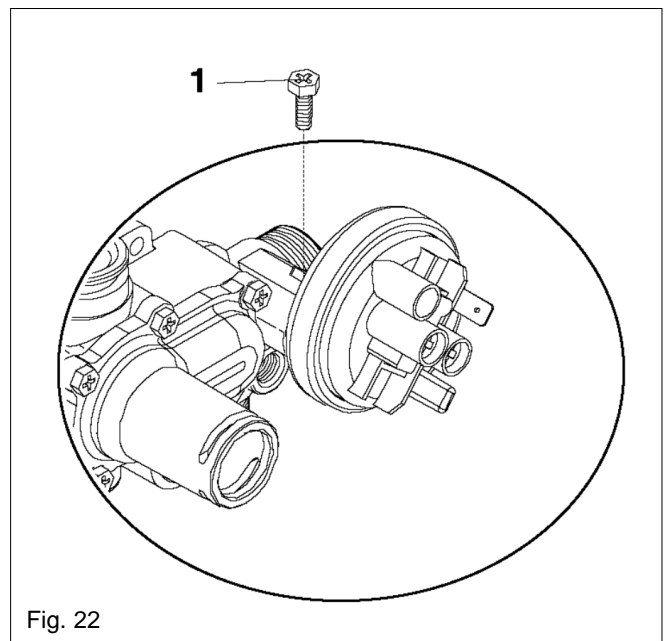

Fig. 22
6.8 WATER PRESSURE SWITCH fig. 22